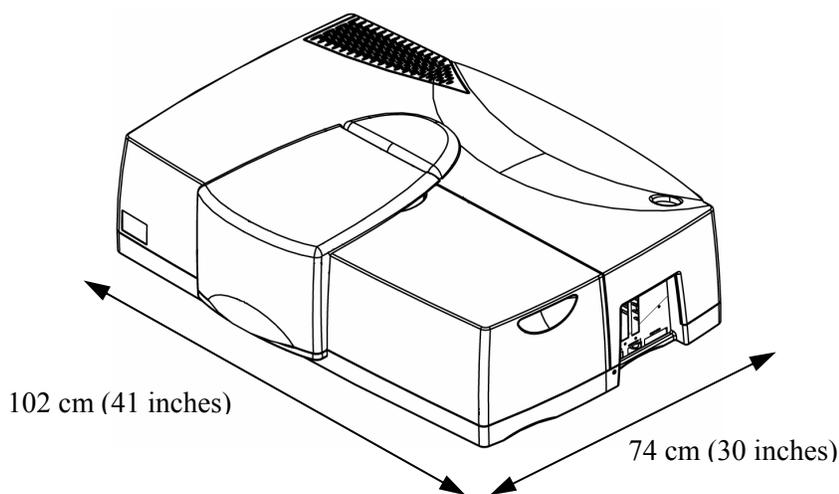

Figure 8 Space Requirements
- Enough space around and underneath the instrument for efficient air circulation, as shown in Figure 8.